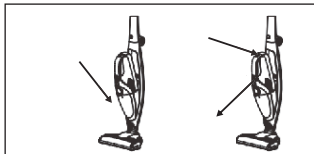

Fig. 7
**Do not use the upright and handheld vacuum cleaner without the filters (15, 16, 17) and container (18) in place.**
- Place the assembled handheld vacuum cleaner (14) in the body (5). To disconnect the handheld vacuum cleaner (14), press the button (10) and slide it out - Fig. 7.
- Remove the handheld vacuum cleaner from the body (5) by pressing the button (10) - Fig. 7.
- Make sure the filters (15, 16, 17) are installed in the container (18).
- The handheld vacuum cleaner starts working after pressing the button (11).
- The suction nozzle (26) can be used to vacuum hard-to-reach areas.
- When vacuuming, e.g., upholstered items, the nozzle (27) can be used.
- Press the button (11) to turn off the vacuum cleaner.
- After use, clean the vacuum cleaner (see **CLEANING AND MAINTENANCE**) and put it into the body (5) and then put the upright vacuum cleaner on the charging station connected to the power supply.
- Remove the handheld vacuum cleaner (14) from the body (5) - Fig. 7.